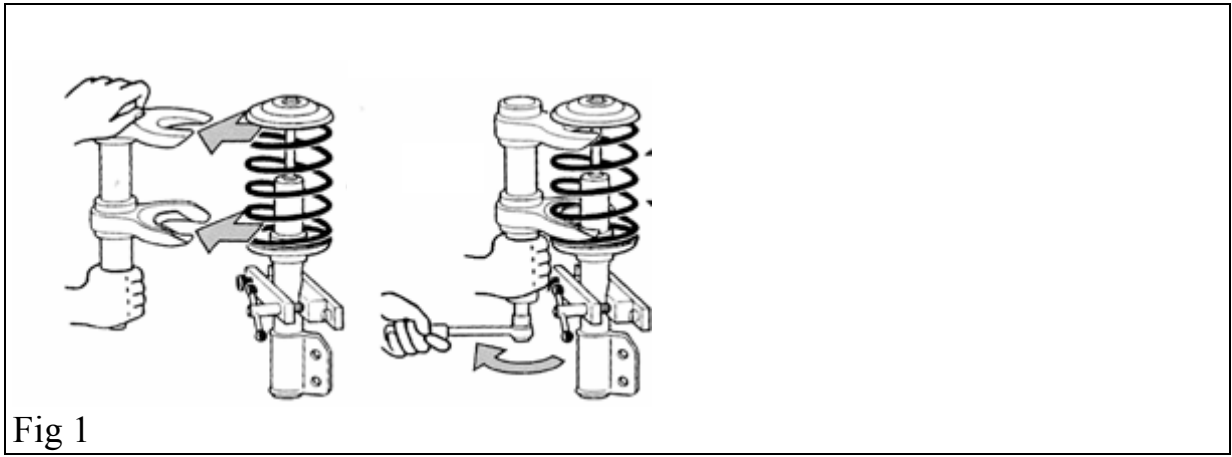

Fig 1
- Never remove self-locking we the spring has tension on top plate.**(fig.1)**
Never remove the self-locking nut on top of the shock-absorber when spring tension is still on always use a special tool as shown in figure 1.
- Feder mit geeignetem Federspanner vorspannen, zentrale Sicherungsmutter lösen und Federteller inklusive Lager demontieren.(Fig 1)